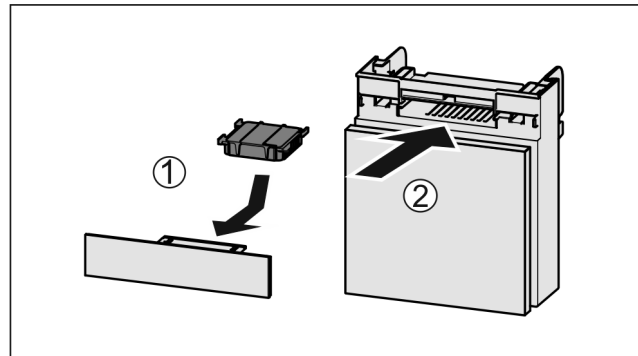

Fig. 187
- ▶ Insert the carbon filter as shown in the diagram Fig. 187 (1).
- ▶ Push the compartment in Fig. 187 (2).